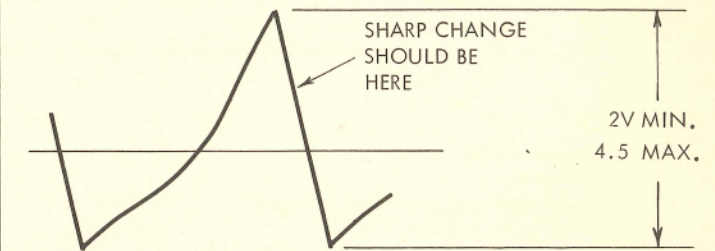

FIGURE 2.
- a. Disconnect black and white leads from transducer to terminal 8 and 9 of amplifier card. Connect the white lead from transducer to the scope probe, and connect the black lead to the scope ground. With the Emitter wheel operating continuously at low speed, the wave form must appear as shown in figure 2, with an output of 2 to 4.5 volts peak to peak.